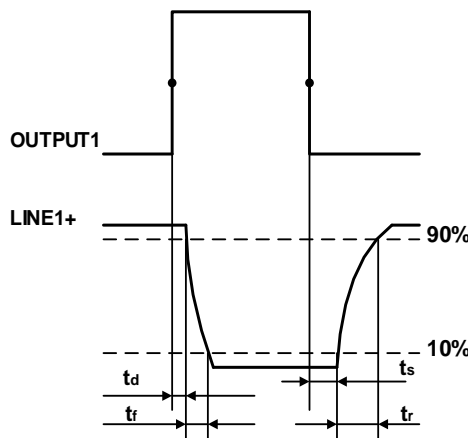

Figure 7-10 Parameter of opto-isolated output circuit
- Rising time delay =  $t_r+t_d$ :  $<50\mu s$  (0°C~45°C) (parameter description is shown in Figure 7-10)
- Falling time delay =  $t_s+t_f$ :  $<50\mu s$  (0°C~45°C) (parameter description is shown in Figure 7-10)